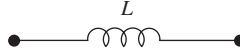

Figure 5.3 An inductor.
The impedance of the inductor shown in Fig. 5.3 can be written as $Z_L = j\omega L \Omega$, where L is the inductance in henry (H) and $\omega = 2\pi f$ is the angular frequency in rad/s (f is the linear frequency or frequency in hertz (Hz)). If $L = 25$ mH and $f = 60$ Hz, the impedance of the inductor can be written as a complex number in rectangular and polar forms as